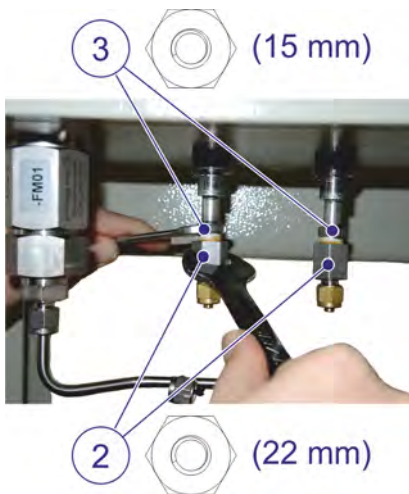

Figure 10.5: Loosen the Swagelok screw connections of the coolant connections
- ☞ Secure the upper nut from turning with a suitable wrench (see **(3)** *Figure 10.5 on page 119*).